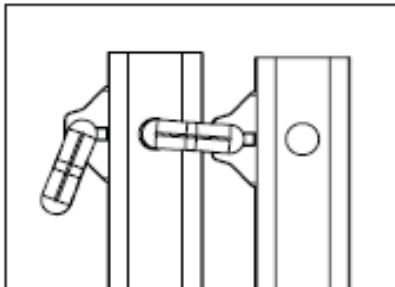

Figure 5
- 3) Using both remaining outer ladder sections, turn one section 180 degrees and insert the "J" locks of one section into the adjacent holes of the other section as shown in Figure 5.